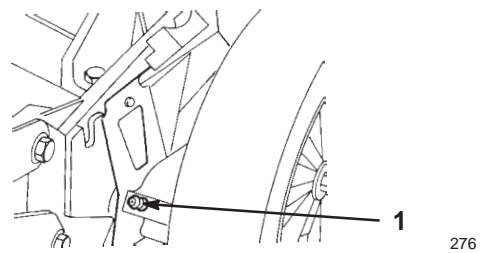

Figure 27
5. Wipe the grease fittings with a clean rag (Fig. 27).